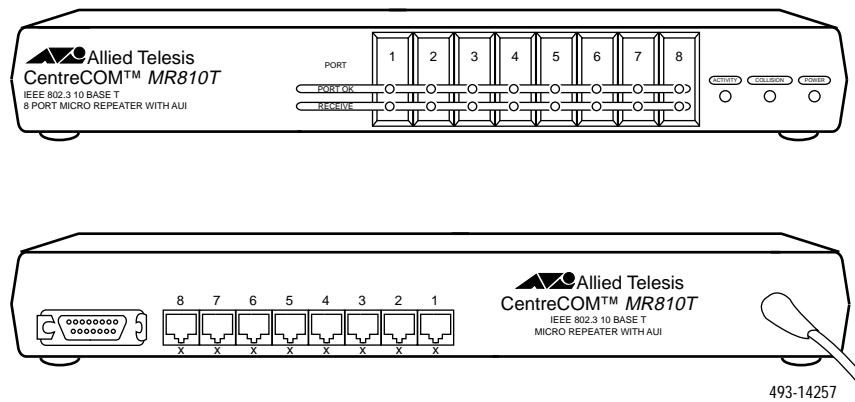

Figure 4-4. Network Hub Unit
- A network hub unit (Figure 4-4)
- A network hub unit (see Figure 4-4)